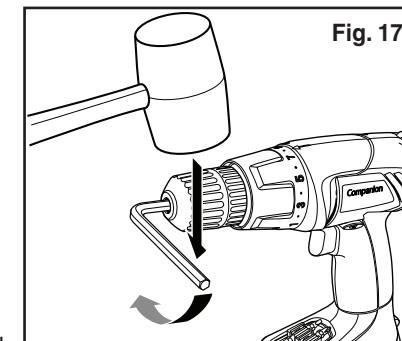

Fig. 17
CHUCK REMOVAL (Figs. 17, 17a and 17b)
3. Tap the hex key sharply with a mallet in a clockwise direction (see Fig. 17). This will loosen the screw in the chuck for easy removal.